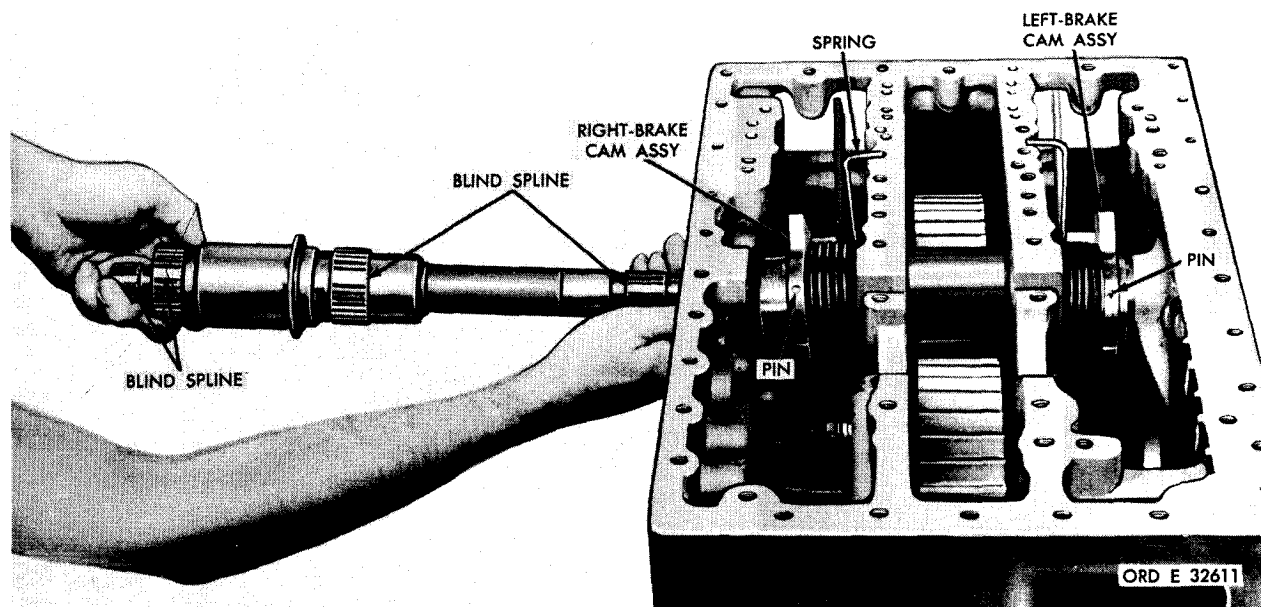

Figure 192. Installing right- and left-brake apply shafts
v. Install the spring on the right-brake cam assembly and position in the transmission rear housing (fig. 192).